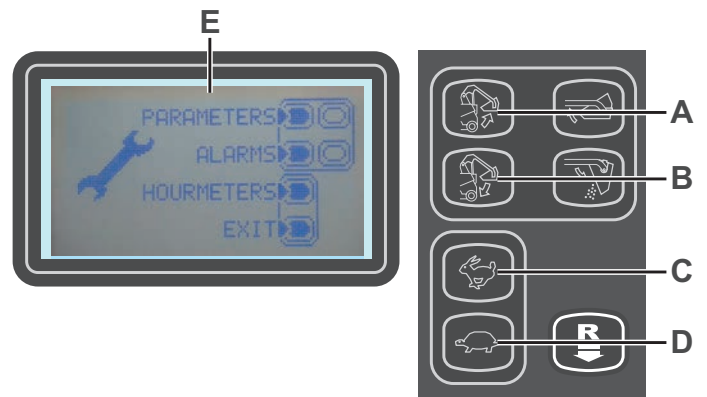

Figure 3
Main screen (E, Fig. 3)
1. Turn the ignition key (51) to the starting position "I" while holding down push-buttons (52) and (53) to access the main screen (E, Fig. 3).
2. Press push-button (A) to change the machine settings (see the Machine Settings Screen paragraph).
3. Press push-button (B) to check any alarms stored by the machine (see the Alarms Memory Screen paragraph).
4. Press push-button (C) to check the machine working hours (see the Hour Counter Screen paragraph).
5. Press push-button (D) to exit super user mode and return to operator mode.
To return to the main screen (E, Fig. 3), press push-button (A) repeatedly.
To return to the main screen (E, Fig. 3), press push-button (A).